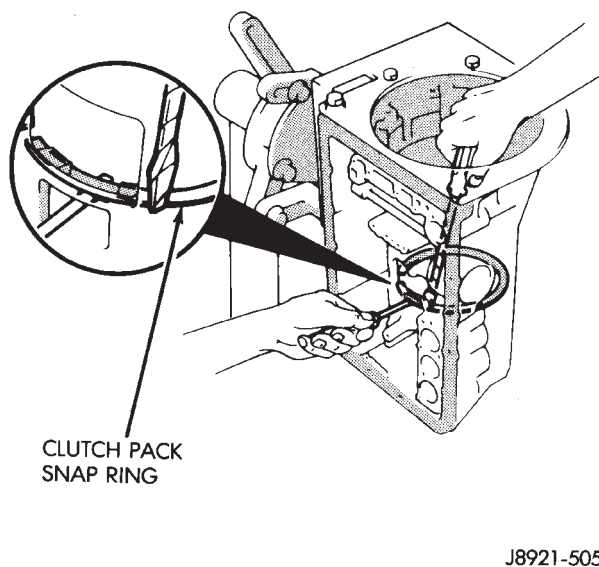

Fig. 39 Removing Second Brake Clutch Pack Snap Ring
(48) Remove second brake clutch pack snap ring (Fig. 39).